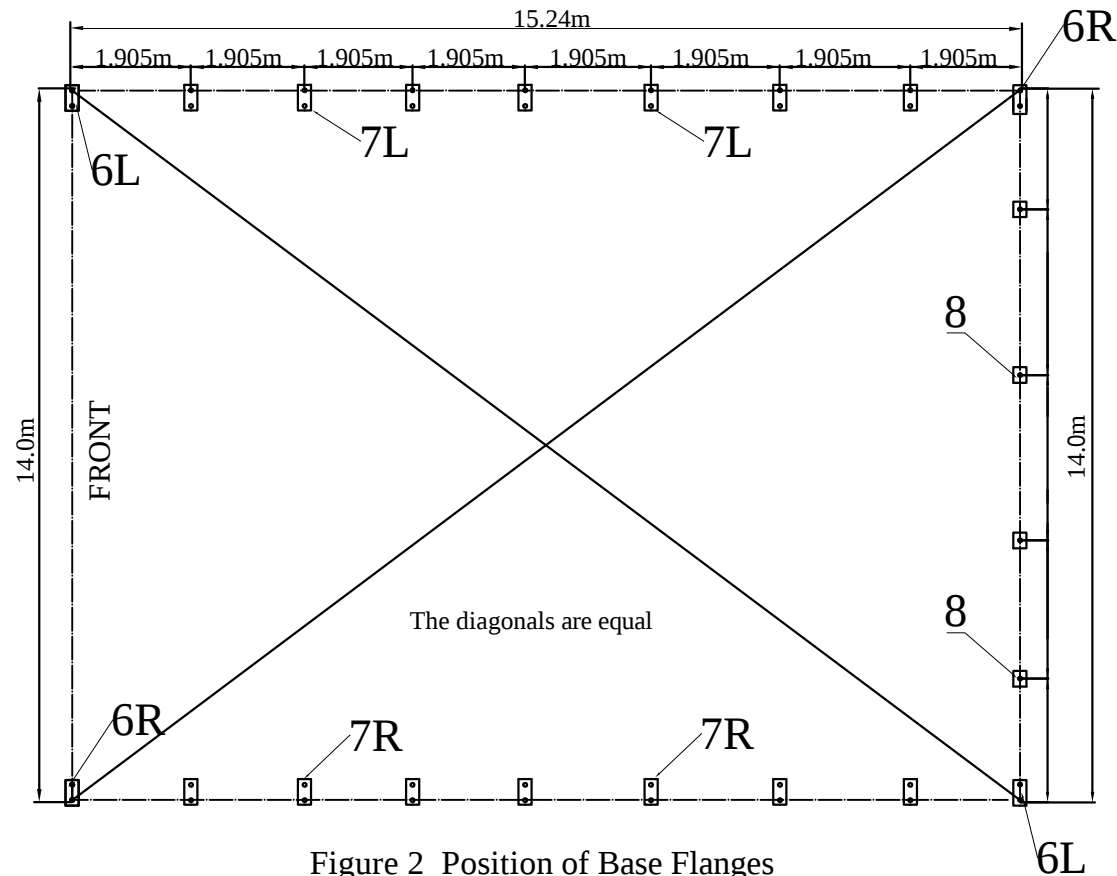

Figure 2 Position of Base Flanges
Begin by determining exact location of the four (4) corners of the building. Mark front edge and side-to-side width of assembly on ground. Draw alignment strings along both ends and sides of the building to the dimensions shown in Figure 2. The outline of the strings will represent the final location of the base flanges. The diagonals are equal. The initial location of each Corner Base Flanges (6R & 6L) is critical to the alignment and fit of the frame components and cover.